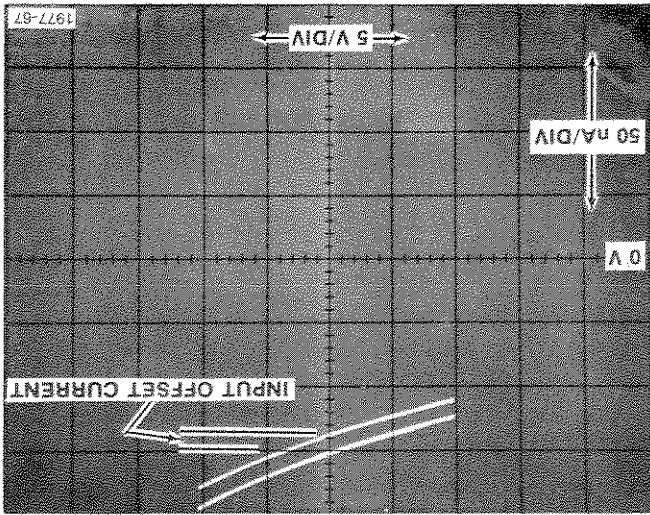

Fig. G-4. Input offset current.
- d. Check that the input offset current (represented by 1 traces) is 4 divisions. If greater resolution is needed, change the VERT UNITS/DIV switch to a more sensitive position and repeat the test. The display should resemble that of Fig. G-4.